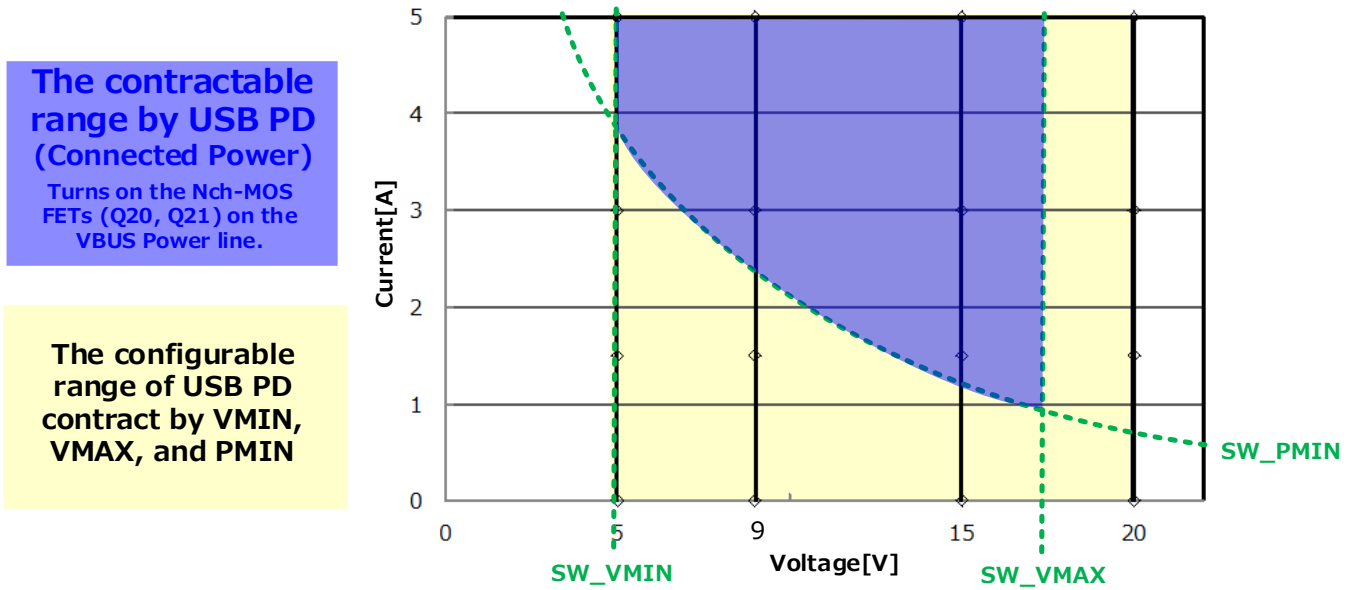

Figure 9. USB PD Contractable Range
3. Set SW_VMAX, SW_VMIN and SW_PMIN according to required PD contract. Please refer to Figure 9 for further information.
This EVK can set the range of USB PD contract automatically according to SW_VMAX, SW_VMIN, SW_PMIN DIP switch settings. The EVK can make a contract with a PD source that has a range within the "USB PD Contractable Range" shown in Figure 9. The EVK requires a power cycle to update the range assigned by SW_VMAX, SW_VMIN, and SW_PMIN. A power cycle occurs by both disconnecting from a Source device and losing power from VSRC5V. If there is no VSRC5V, only disconnecting from a Source device is required.
Figure 9 shows the specific range by SW_VMAX, SW_VMIN, and SW_PMIN that allows USB PD Contract.